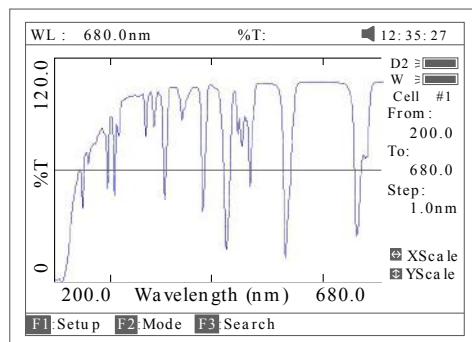

Fig 14
1. The key **[ENTER]** be pressed, the file selected will be loaded and displays on the screen. Fig 14.
- ◇ Press the key **[SAVE]** in Fig 14 to save curve.